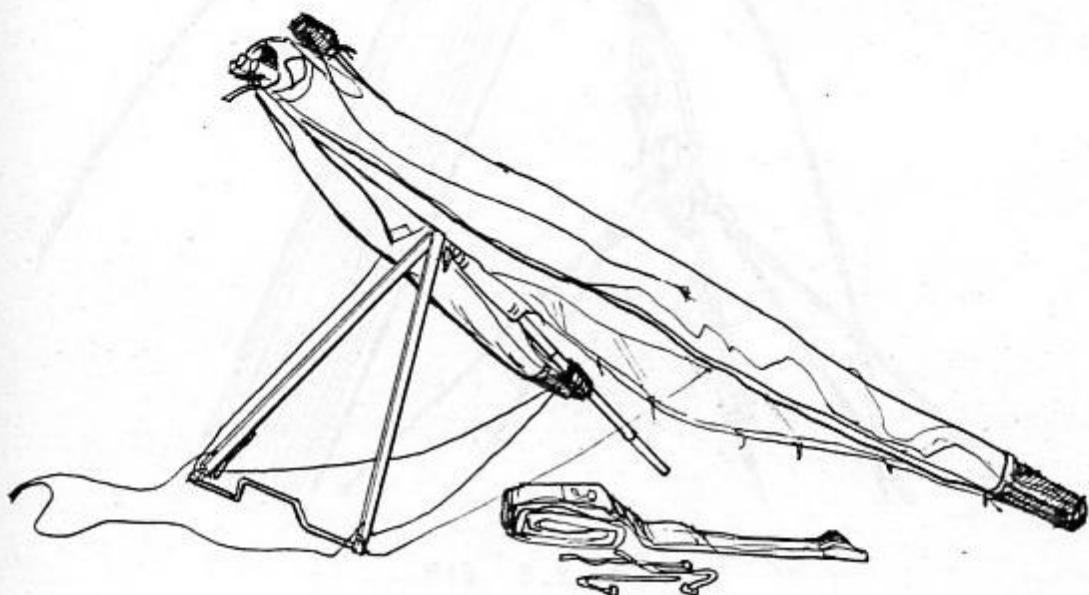

Fig. 3.2.11.
5. Remove the bag and the velcro straps. Spread the wings so, that sail is a little sagged and the glider is resting on the consoles and on the keel tube (Fig. 3.2.11).